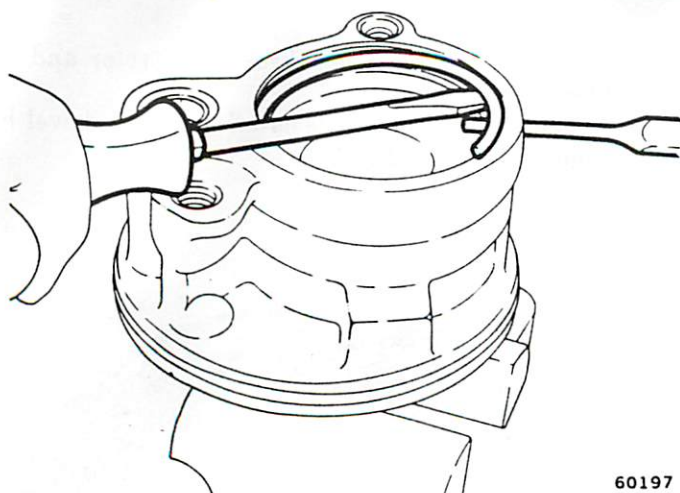

Fig. 2L-53 End Plate Retaining Ring Removal
(11) Remove flow control valve and valve spring from pump using pencil-type magnet. Or, remove pump from vise, invert pump, and allow valve and spring to slide out of pump bore.
(12) Remove pump shaft, thrust plate, rotor and vanes, pump ring, and pressure plate as assembly. Remount pump in vise so shaft bore faces downward and tap end of pump shaft with plastic mallet to remove assembly (fig. 2L-54).